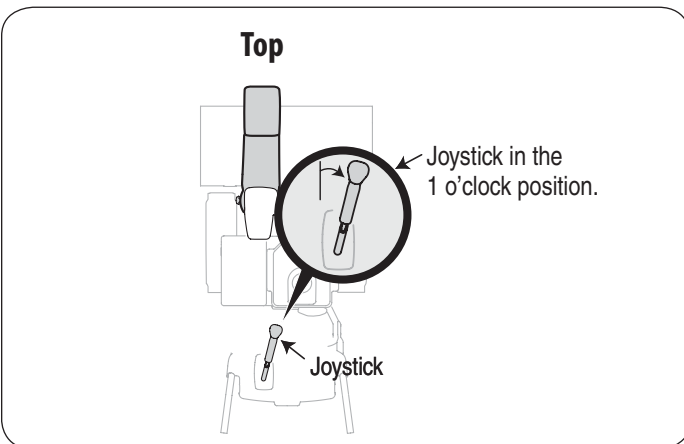
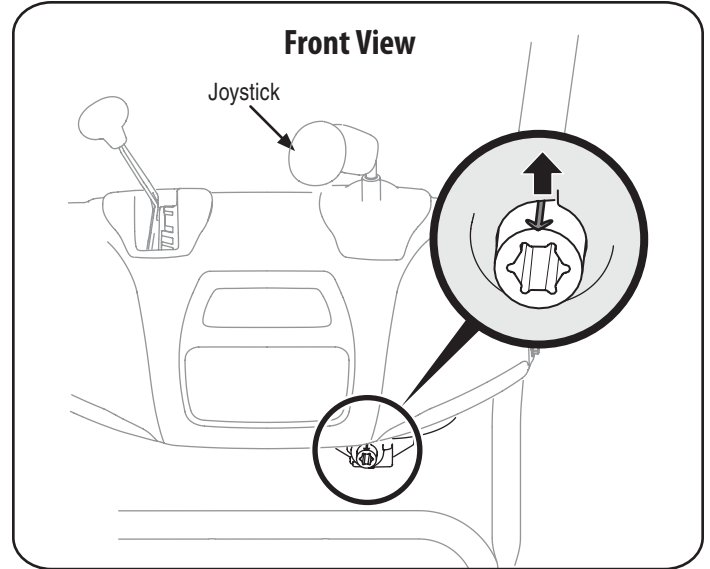

Figure 6
Figure 7
5. Rotate the joystick to 1 o'clock position (see Figure 6) so the silver arrow on the pinion gear faces upward (see Figure 7).
NOTE: The joystick must be angled slightly to the right as shown Figure 6 and the arrow on the pinion gear at the top to ensure full chute rotation.